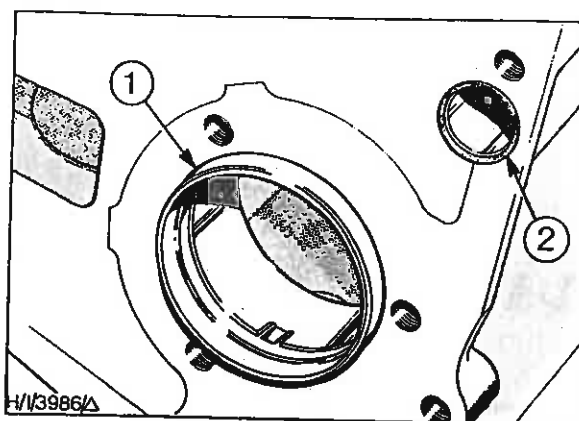

Fig. 51 - Cylinder Block Front Face
28. Locate a new 'O' seal ring into the counterbore at the end of the oil gallery on the front face of the block and position the timing gear housing (using a new gasket) over the locating ring - see Fig. 51.